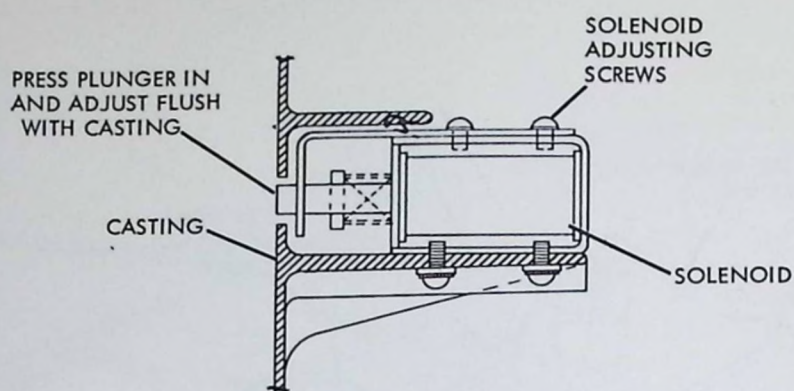

FIGURE 22
32. Adjust the solenoid position in the casting as shown (Figure 22). Making sure that the solenoid plunger is bottomed and set flush with casting, tighten in place.
35. Complete the attaching of the bed and apron assembly to the base frame as shown (Figure 22).